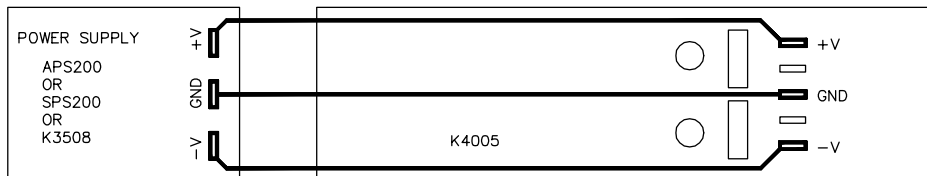

FIG. 7.0
- ☐ Connect a symmetrical power supply unit (possibly the APS200, SPS200 or K3508 module) of + and - 30 tot 45VDC to the positions GND (0V), -V and +V. See Fig. 7.0.